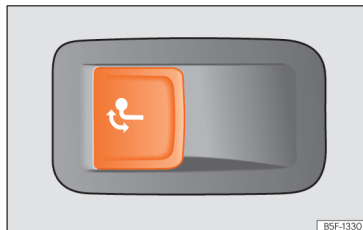

Fig. 197 Left side of the luggage compartment: button to unlock the tow hitch.
- Pull the >>> Fig. 197 button briefly. The tow hook unlocks electrically and automatically turns outwards. The button's control lamp flashes.
- Pull the >>> Fig. 197 button briefly. The tow hook unlocks electrically.
- Never press the button >>> Fig. 197 when there is a trailer hooked to the vehicle or when a carrier system or other accessories are mounted on the tow hook.